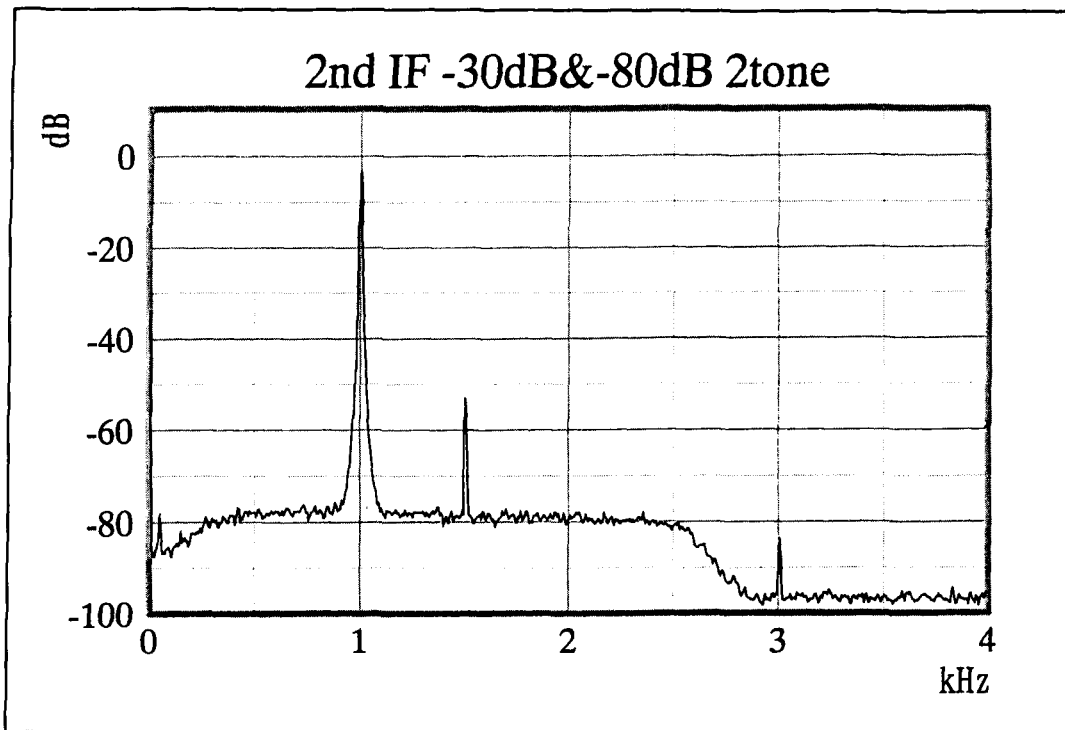
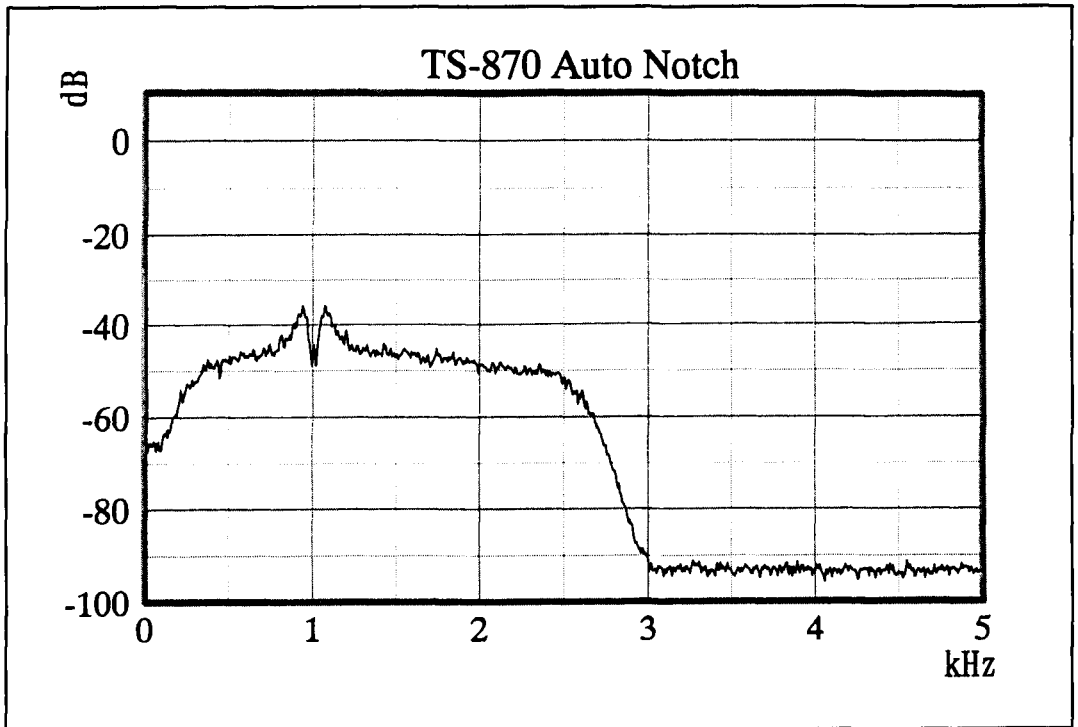

Figure 11. Wanted signal of 1.5 kHz in the presence of 1 and 3-kHz interfering signals.
Figure 13. TS-870 auto notch (IF). Note the single beat rejection at 1 kHz.
Figure 11 shows a spectrum from zero (0) to 4 kHz with a wanted signal around 1.5 kHz and two interfering signals—one at 1 kHz and one at 3 kHz. After activating the auto-notch, the interfering signals are significantly reduced as is shown in Figure 12. The DSP-based filtering can be performed at the AF (mostly) and the IF (hopefully). The IF filtering requires significantly more number crunching. Figure 13 shows the automatic notch filter rather than
Figure 12. DSP removed interfering signals at 1 and 3 kHz shown in Figure 11. These automatic multi-tone notches/beat cancellations provide up to 50 dB attenuation.